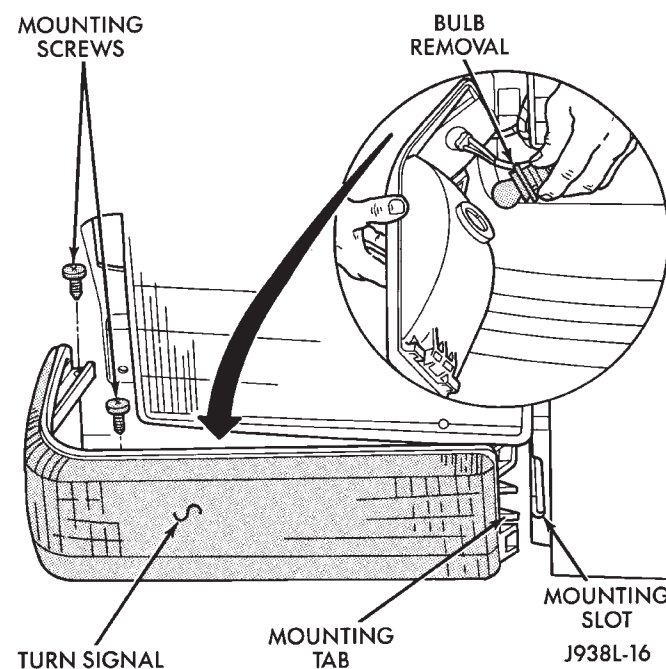

Fig. 5 Turn Signal Lens
(8) Remove lower screw located above park/turn signal lamp.
(9) Pull out lamp.
(10) Twist lamp socket clockwise. Disconnect lamp socket from lamp.
(11) Remove upper screws at turn signal lens. Pull lens out to access lamp sockets (Fig. 5).
(12) Remove turn signal and side marker lamp sockets by twisting sockets clockwise.
(13) Remove lens.